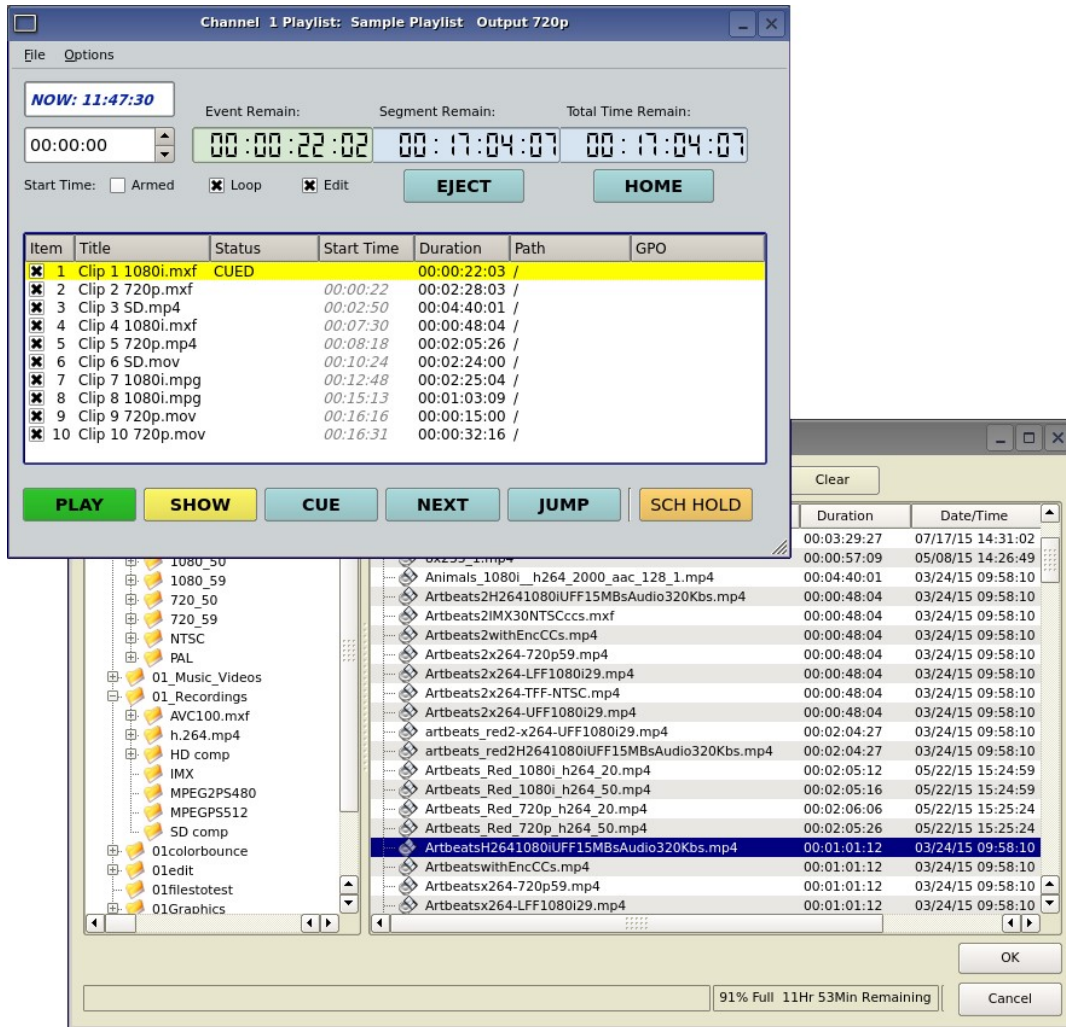

Figure 23 - Channel 1 Playlist with Clip List
1. Change the transport for Channel 1 to the **Playlist View**. Click **FILE >PLAYLIST** in the Channel 1 transport pulldown menu. The window of **Figure 23 - Channel 1 Playlist with Clip List** appears.